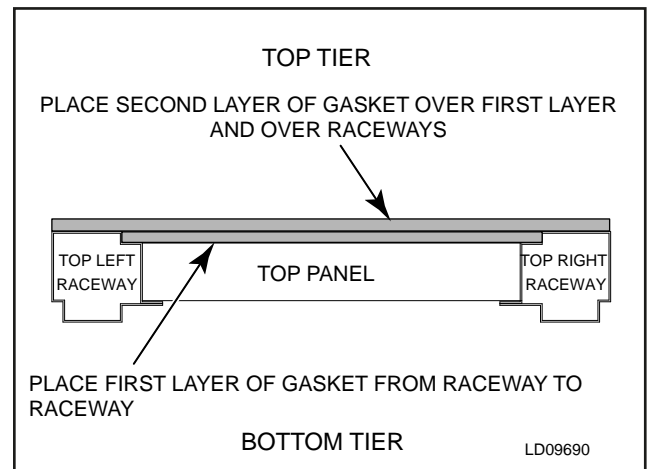

FIG. 2-31 – APPLY GASKETS TO TOP PANEL BOTTOM TIER
- e) Ensure 1/4" x 2" neoprene gasket properly installed on bottom tier. If the top tier is shorter in direction of airflow than the bottom tier, apply gasket material on the top panel of the bottom tier from raceway to raceway but not on top of raceways (see Fig. 2-31).